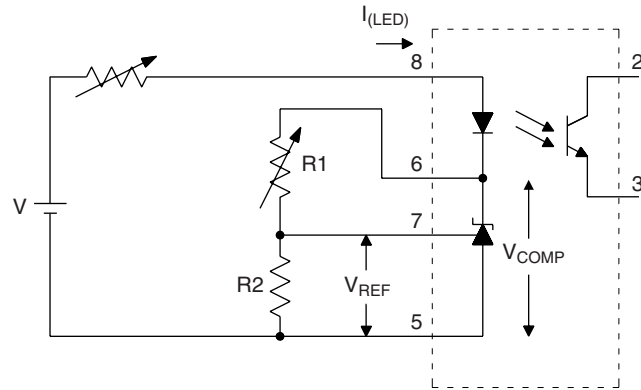

FIG. 2. $\Delta V_{REF}/\Delta V_{COMP}$ TEST CIRCUIT
2. The dynamic impedance is defined as $|Z_{OUT}| = \Delta V_{KA} / \Delta I_K$. When the device is operating with two external resistors (see Figure 2), the total dynamic impedance of the circuit is given by: